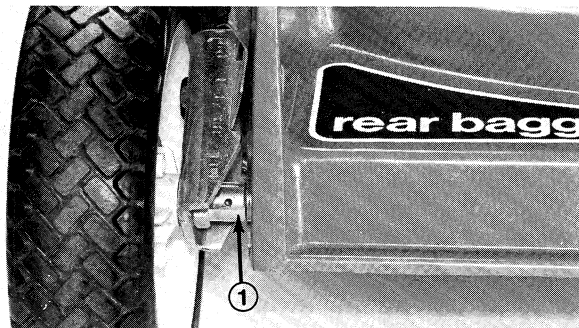

Figure 7
10. Remove front wheels. Compare length of existing front wheel bolts with new bolts supplied in kit. Using shortest wheel bolts and new pivot nuts (Fig. 7), reinstall front wheels.